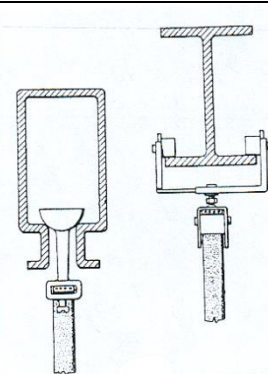

fig. 61
3. Insert the sleds, or slides, in the relative sliding housings (channel-girder or double-T "girder") - (fig. 61).
3. Insert the sleds, or slides, in the relative sliding housings (channel-girder or double-T"girder") - (fig. 61).